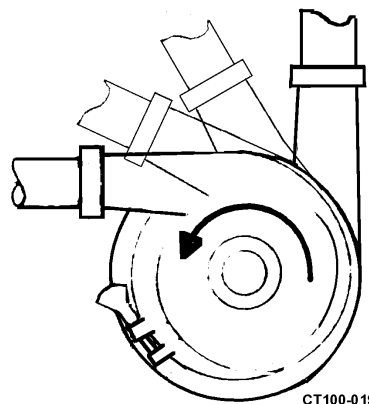
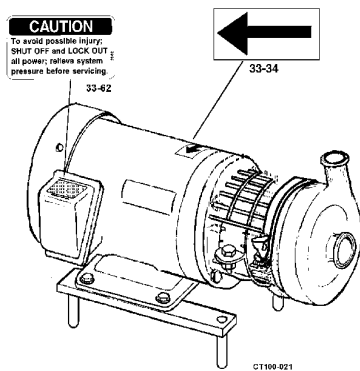

Figure 3 - Recommended Discharge Positions
Figure 7 - Replaceable Label Location
- Check motor nameplate to be sure motor is compatible with electrical supply and all wiring, switches, starters. Make sure all overload protections are correctly sized. (Figure 7).
- Check pump rotation following electrical installation. Correct rotation is counterclockwise when facing pump inlet connection. (Figure 3) and Figure 7.